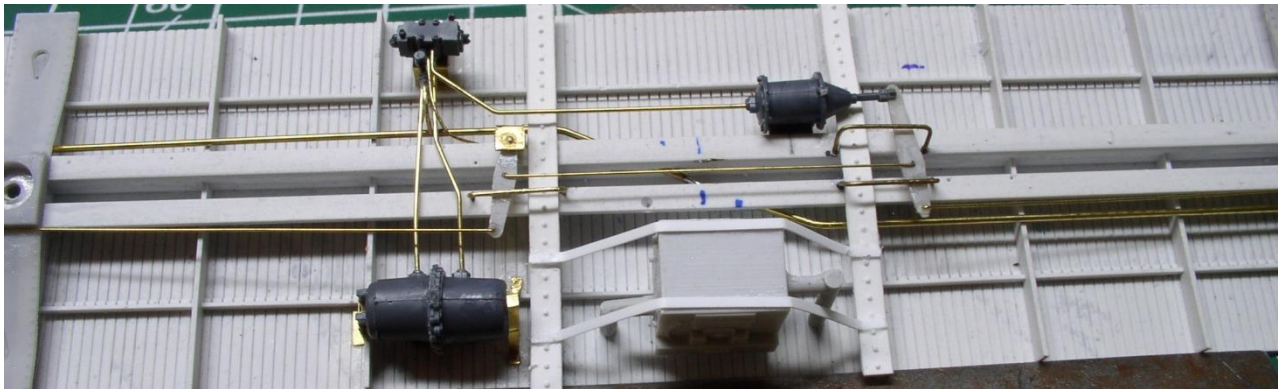

Figure U24
26. Insert the rods that protrude from the pipes into the floor and glue in place. The etched braces are a bit too short because this heater is a replacement for the original one which was oversize and are really for Series 1. Instead, use the two supplied 0.010" x 0.040" plastic strip to form the braces. Make a mark in the centre of the strip. Measure 15.5" on either side. The rear strip should have the legs 31" long and the front one should have legs about 33" long. Use pliers to make a permanent bends. Do the same with the legs and attach to the top of the heater and the cross bearers. See Figure U24.